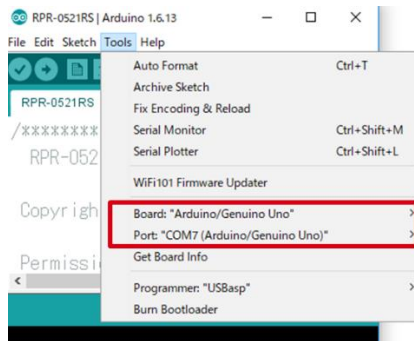

Figure 3. COM Port setting
1. Select [Tools] and check the contents enclosed in the red frame. (Figure 3) Board should be "Arduino/Genuino Uno" and Port should be COMxx (Arduino/Genuino Uno). COM port number is different in each environment.